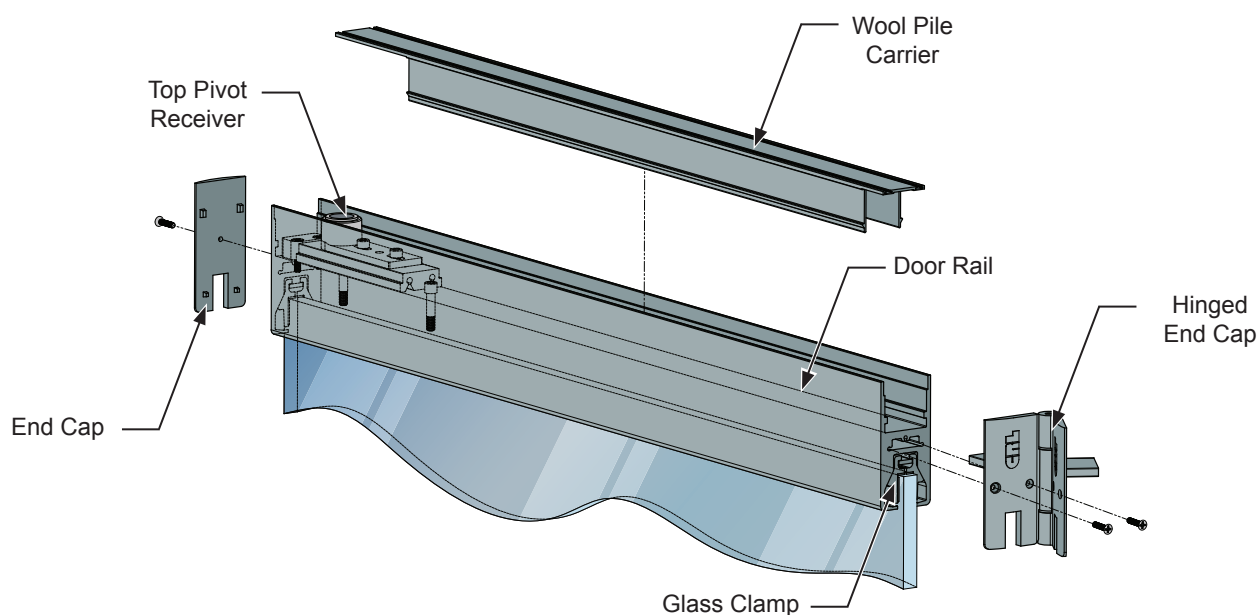

Fig. 8
1. Remove both End Caps from the rail. **(Fig. 8)**
2. Remove the wool pile carrier from the rail. **(Fig. 8)**